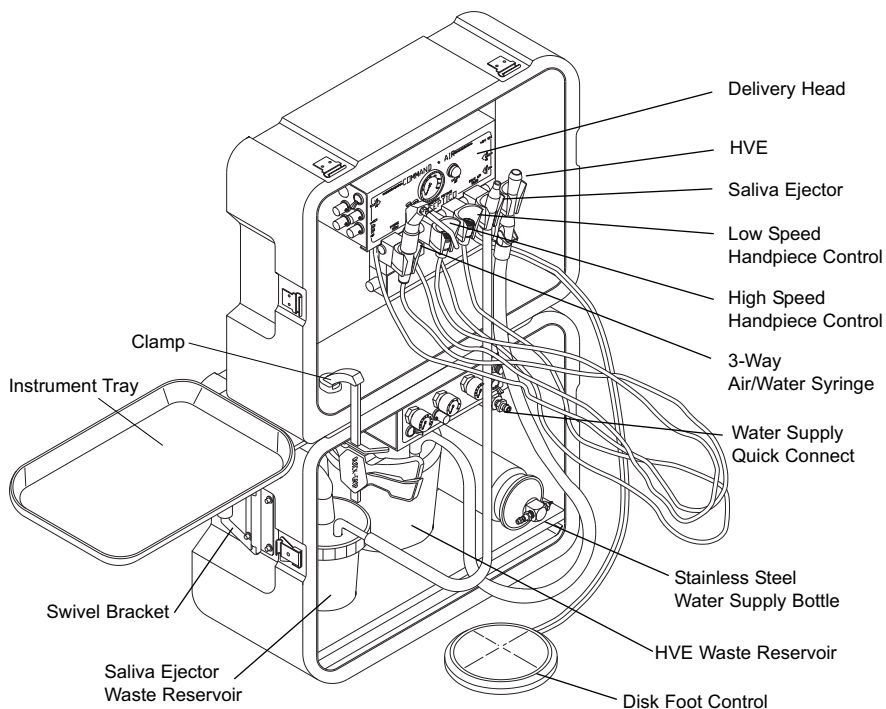

Figure 3 - ADU-10CF Component Locator
3. Lock the hinged lid open by attaching the Quick-Grip clamp to the case as shown in *Figure 3*.
6. Remove air water syringe and handpiece tubings from their labeled storage pouch and hang in the appropriate holders on the delivery head. Remove disc foot control from the same pouch and place on the floor. *Figure 3*
7. Remove the air supply line from its labeled storage pouch and attach to the unit first, and then the compressed air source. The air supply line is furnished in two 10 ft. sections with quick disconnects. Assemble as shown in *Figure 3*.